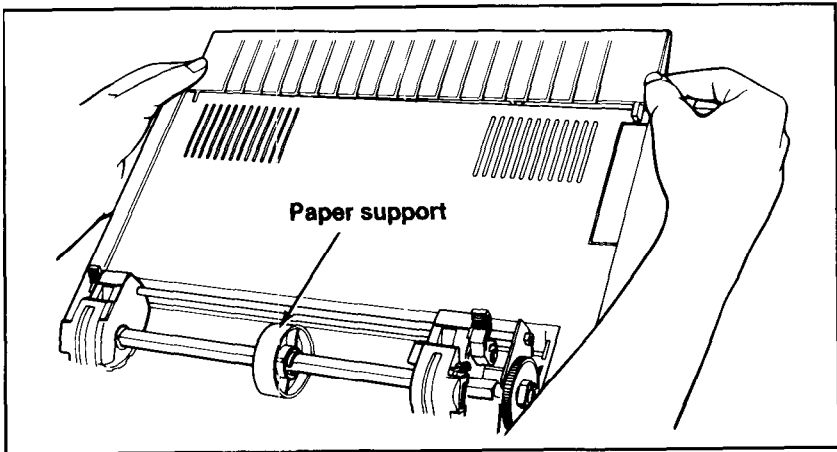

Figure 3-7. Installing the paper shelf
6. Now install the paper shelf by fitting it into the two notches on the back of the printer, as shown in Figure 3-7. The paper shelf keeps the paper from getting caught on the interface cable.
7. If you have an LQ-800, center the one support in the middle of the tractor as shown in Figure 3-7. If you have an LQ-1000, space the two paper supports evenly along the width of the paper.